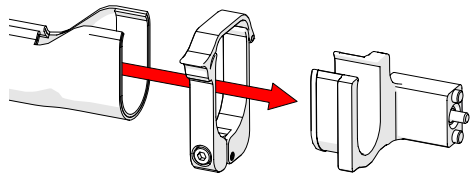

Fig. 166 - Slide tube around mount
2. Slide the clamp around the sleeving first and then slide the sleeving around the outside of the HT cable management mount (Fig. 166).